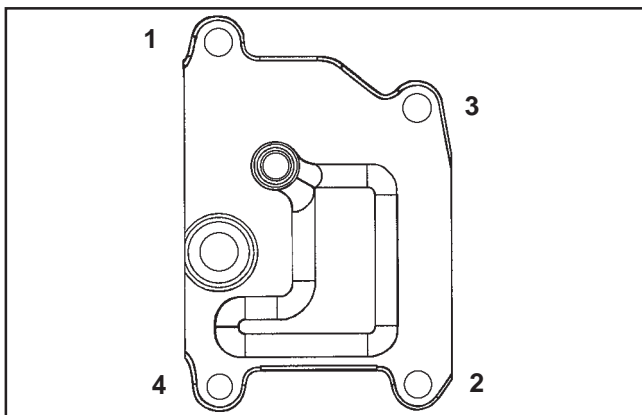

Figure 11-41. Breather Cover Torque Sequence.
3. Torque the screws to **7.3 N·m (65 in. lb.)** in the sequence shown. See Figure 11-41.